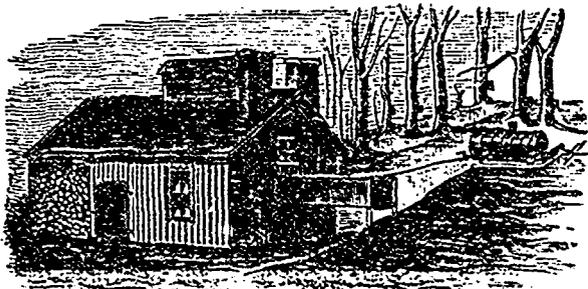
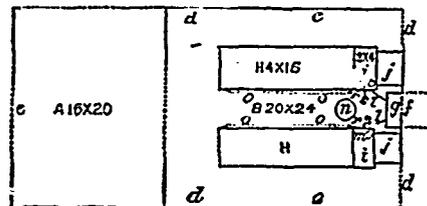

Fig. 1.
Fig. 2.
The gathering cask, figured and described last year, and shown again in fig. 1, seems best adapted of anything for the work to be done. It is simply a cask 5 feet long and about two feet in diameter, fastened firmly to a "boat sled", large end behind, the front end a little the higher, so that when the sled stands level, the sap will all flow from a faucet in the rear, through a tin conductor with a funnel-shaped "head" down the slope, into the store trough below, as shown in fig. 1. The sap need never be lifted but once, or dipped or rolled up skids in barrels at all. It is poured down into the gathering pail from the bucket which hangs at the tree, and is not removed from the spout in emptying. It must be lifted a little and poured into the funnel of the gathering cask, and that is all. After that, by taking advantage of a slope, it will run into the store trough, and thence into the boiler without further labor.
3. The sugar-house, its location and its arrangement. The former is indicated in fig. 1. The sugar-maple seldom grows spontaneously except on ground that is somewhat rolling, and in almost every sugar camp can be found side-hill advantages in a sufficiently central location. If the slope is not as steep as that represented in the cut, a longer conducting tube must of course be used, so that the gathering cask can stand far enough off up in the slope to bring it to the required level. In hilly New-England there is usually no trouble on this point, but even there, I have seen sugar-houses on level ground near a fine slope of which they took no advantage. And in Ohio, until within a few years ago, such was the common custom. The store trough stood on a level with the "arch," the barrels were laboriously rolled up two skids and emptied into the trough, and then the sap was lifted, pailful after pailful, and poured into the kettles or pans. Men are strangely slow in learning to take advantage of gravitation and the other forces of nature, even when she seems daily to thrust them before our very eyes. Fig. 2 gives the ground plan of the sugar-house seen in perspective in fig. 1. It is planned for two arches, so that one man can boil the sap from 2,000 or 2,500 buckets. It will be understood from a brief description, if figs. 1 and 2 are both kept before the eyes. A is the woodshed; B, the boiling-room; H H, the evaporators, set on brick arches, \pm , heaters running a foot below the level of the evaporators, and perforated like the